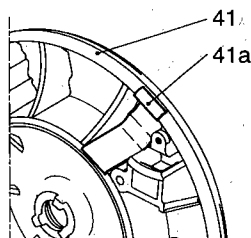

Fig. 2
Model D (variant x-A-xxxx): Fit the earth connection spring, pos. 41a, so that it engages with the motor stool, pos. 41, see fig. 2.